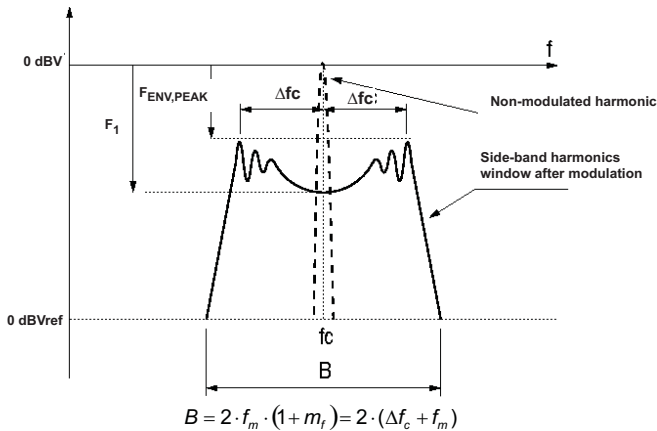
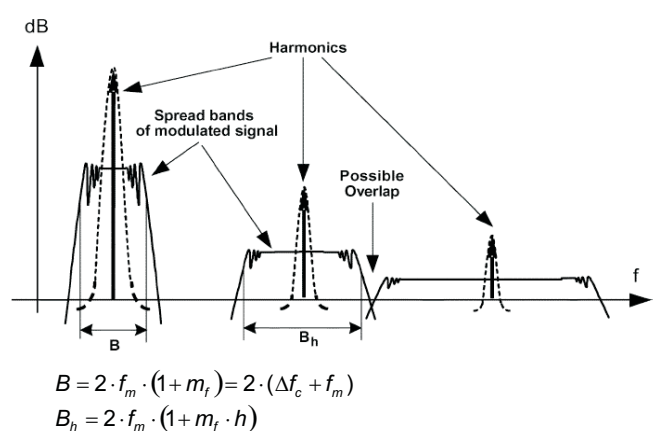

**Figure 8. Spectrum Of A Frequency Modulated Sin. Wave With Sinusoidal Variation In Time**
**Figure 9. Spread Bands Of Harmonics In Modulated Square Signals (1)**
Figure 8 and Figure 9 show that after modulation the sideband harmonic is attenuated when compared to the non-modulated harmonic, and when the harmonic energy is spread into a certain frequency band. The higher the modulation index ( $m_f$ ) the larger the attenuation.
(1) Spectrum illustrations and formulae (Figure 8 and Figure 9) copyright IEEE TRANSACTIONS ON ELECTROMAGNETIC COMPATIBILITY, VOL. 47, NO.3, AUGUST 2005. See References Section for full citation.